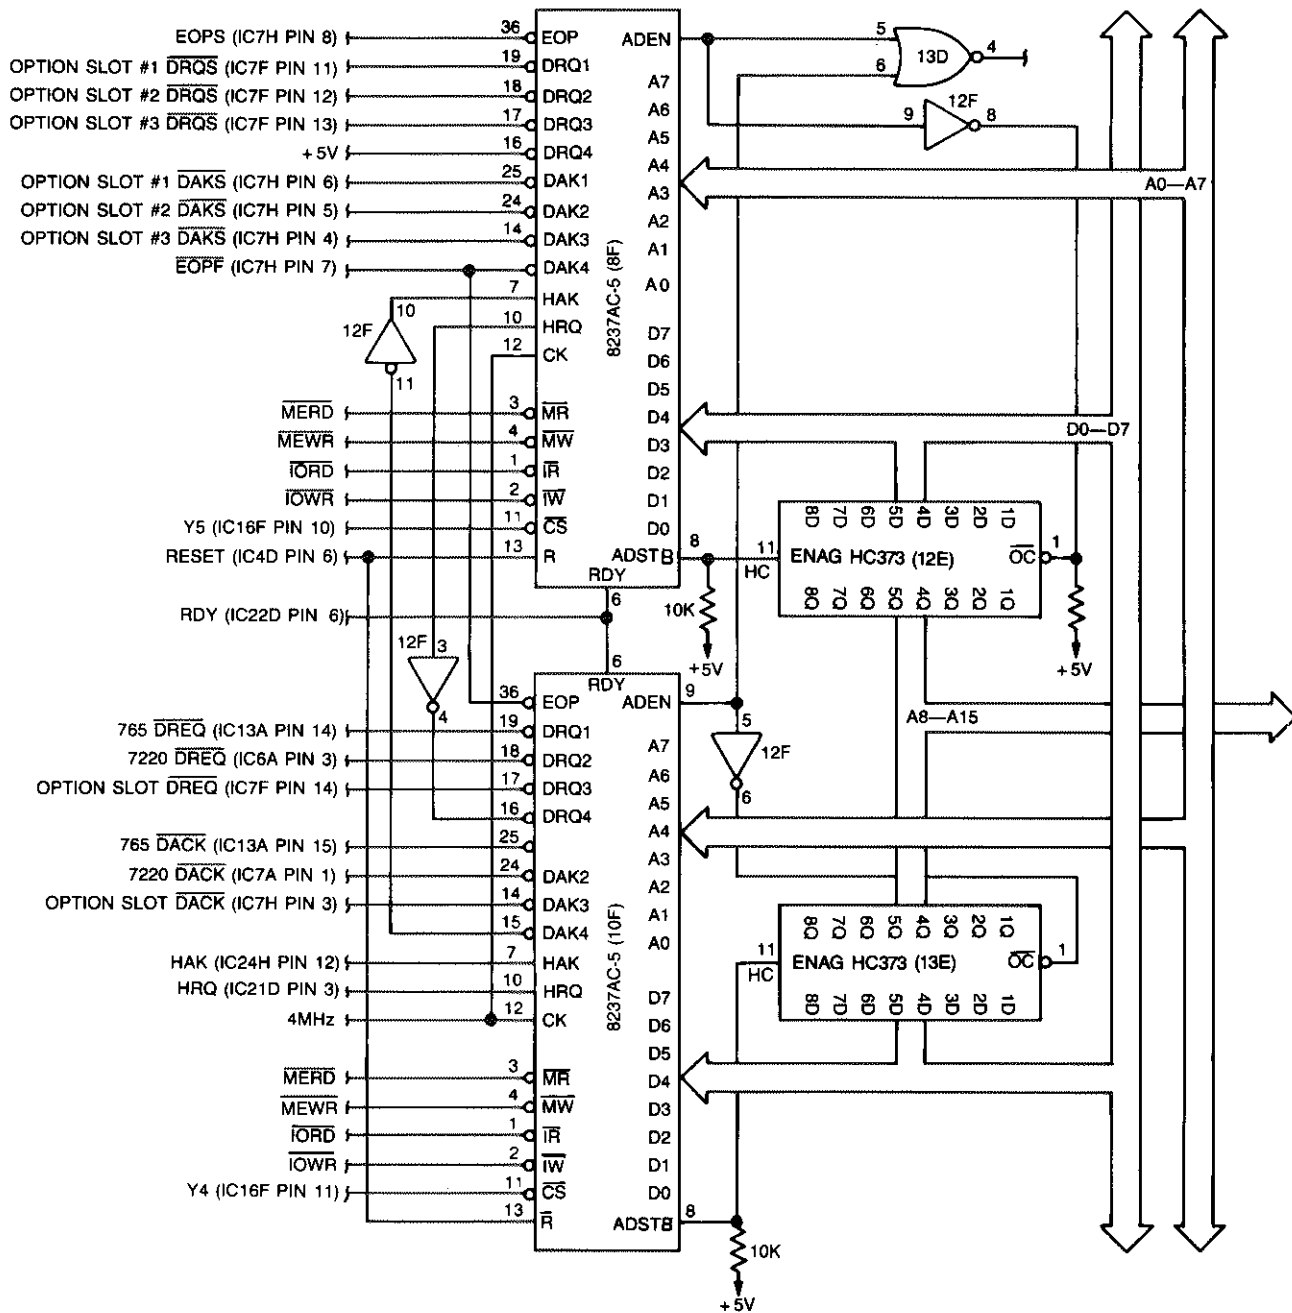

FIGURE 2-68. 8237 DMA CONTROLLERS
2.3.4.7 8237 Programmable DMA Controller (Figure 2-68)